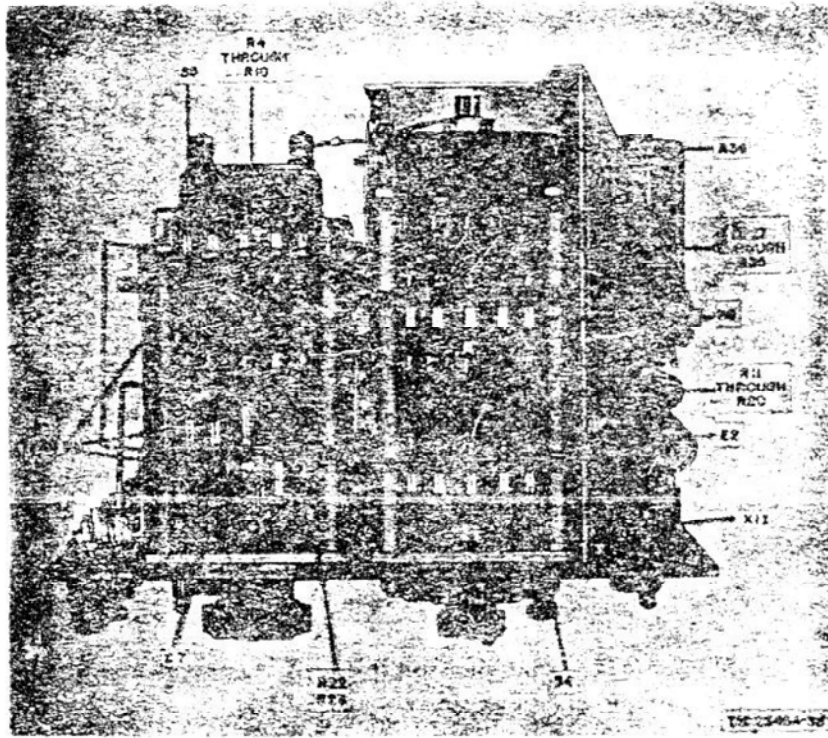
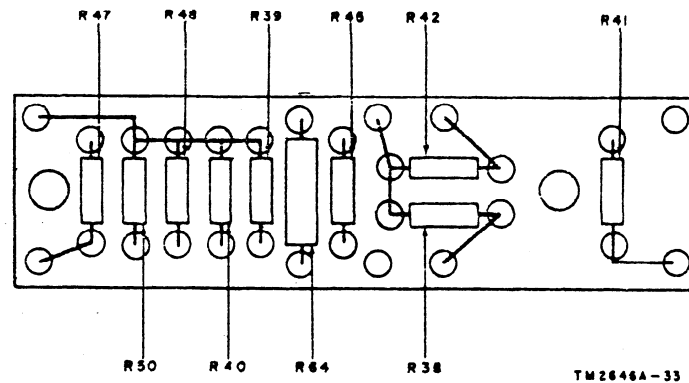

Figure 32. Capacitance-Inductance-Resistance Test Set AN/URM-90, right side view of chassis, location of parts
Figure 33. Terminal board assembly E2, bottom view, showing location of resistors.
- (1) Remove the bridge chassis from the case (par. 51b(2)).
- (2) Remove the two retaining screws and washers that attach terminal board E2 to the bridge chassis (fig. 32).
- (3) Unsolder all lead wires necessary (par. 67f) to reach the underside of the terminal board.
- (4) Replace the resistors as necessary (fig. 33).
*Note.* To replace terminal board E2, unsolder all resistors (from the bottom) and capacitors (from the top, fig. 32) and resolder these components on the replacement board.
- (1) Resolder all resistor lead wires to the terminal board (fig. 33).
- (2) Position the terminal board on the standoff mounting spacers.
- (3) Replace the two screws and washers that attach the terminal board.
- (4) Replace the bridge chassis in the carrying case (par. 51b(11)).